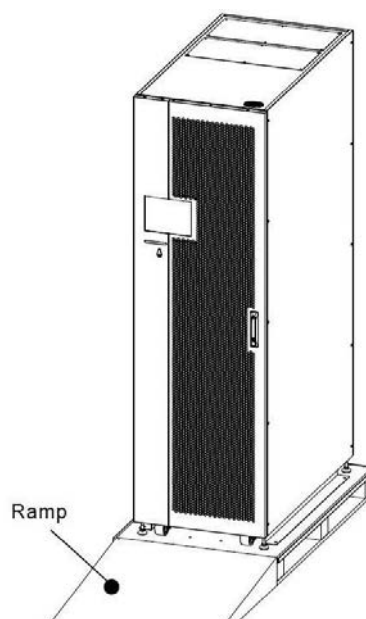

Figure 2-2
- 3 - Place a ramp in front of the cabinet. Refer to Figure 2-2.